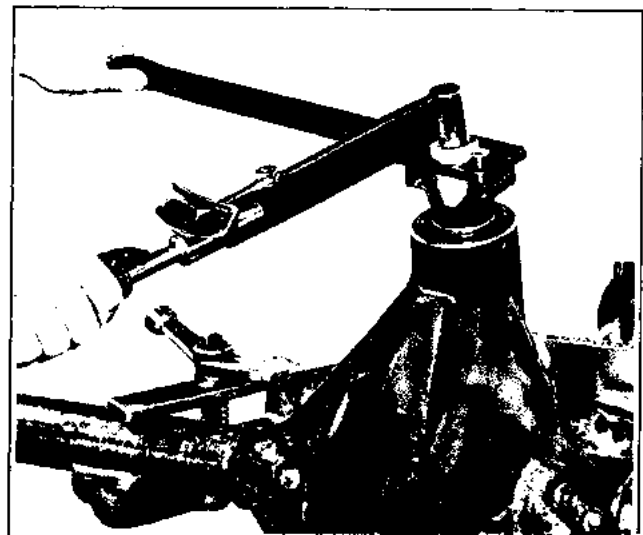

Figure 2B-28. Tightening Nuts with Torque Wrench and Socket
16. Install oil slinger (27), gasket (29), and seal (28).
17. Install end yoke (23), washer (21), retainer (21A), cotter pin (20A), and nut (20). Finish tightening nut with torque wrench and socket to 50 to 70 ft.-lbs. See Figure 2B-28. Where applicable, bend one side of retainer (21A) against flat on nut (20).
19. Place drive gear and differential case assembly, bearing cups included, in carrier. Place bearing caps (6) in their respective positions, align identification marks, with screws (5) finger tight.
20. Move drive gear into drive pinion and, from shim requirements as determined in Step 9, place shims (12) between cup and carrier as shown in Figure 2B-29. Force shims in both sides so as to use total required and have gear rotate with no backlash.